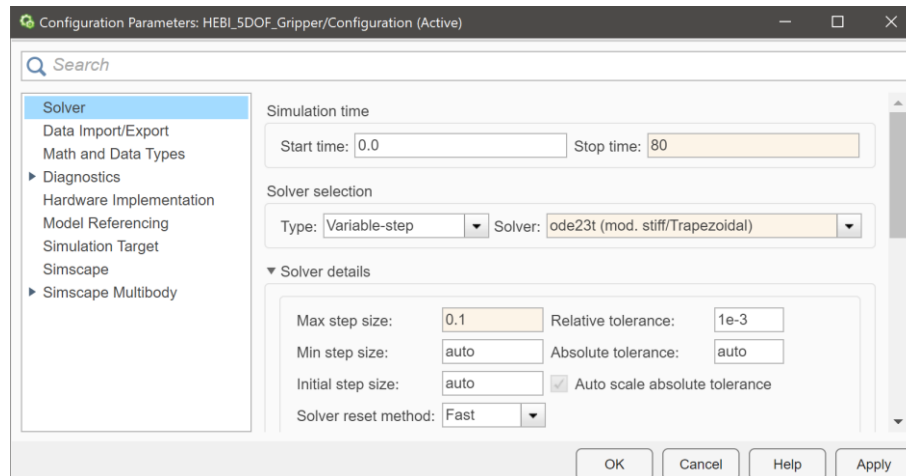

Figure 6: Configuration Parameters
7. Navigate to the “Configuration Parameters” window and adjust the following parameters, as show in figure 6.